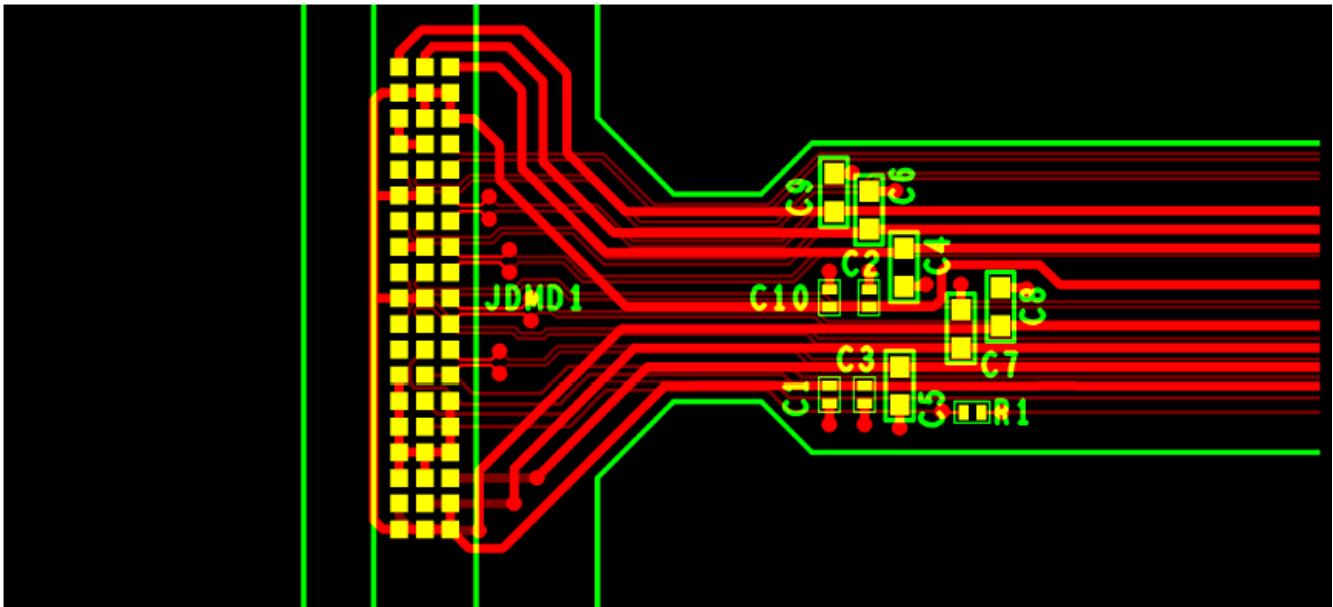

图 10-1. Power Supply Connections
- Minimize vias, layer changes, and turns for the HS bus signals. Refer 图 10-1.
- Minimum of two 100-nF decoupling capacitor close to VBIAS. Capacitor C6 and C7 in 图 10-1.
- Minimum of two 100-nF decoupling capacitor close to VRST. Capacitor C9 and C8 in 图 10-1.
- Minimum of two 220-nF decoupling capacitor close to VOFS. Capacitor C5 and C4 in 图 10-1.
- Minimum of four 100-nF decoupling capacitor close to Vcci and Vcc. Capacitor C1, C2, C3 and C10 in 图 10-1.